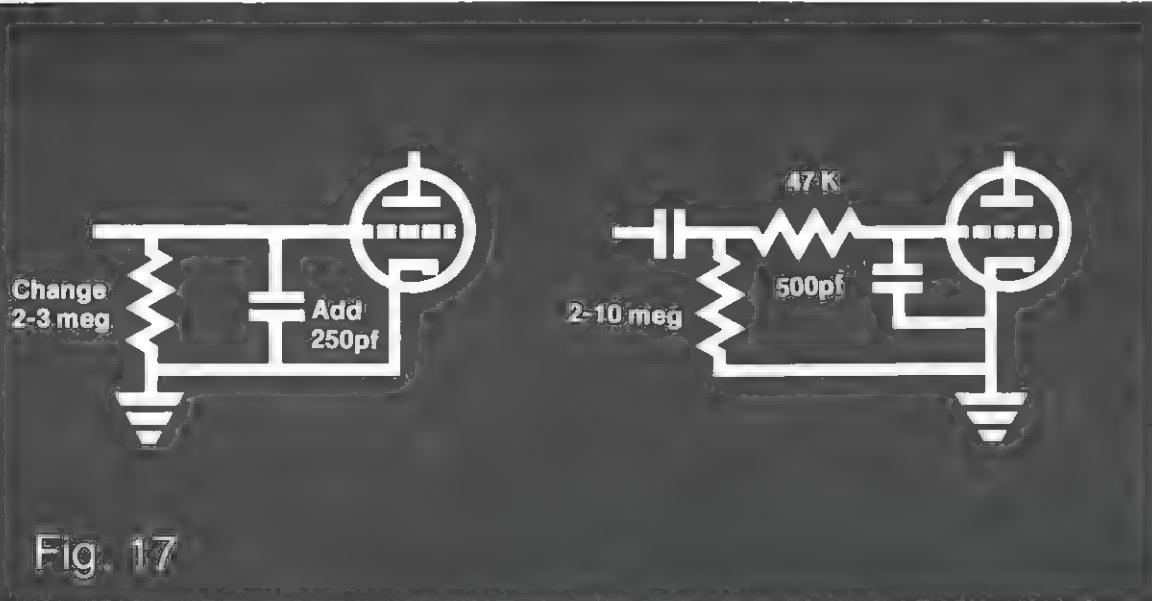

Fig. 17
4. Capacitors, RF chokes and resistors can be used in combinations to make filters to eliminate the interference. For circuits such as those shown in Figure 16, use a choke of 2 to 6 microhenries and a capacitor of about 10 picofarads. A combination RF filter is shown in Figure 17 with the recommended values.
is shown in Figure 17